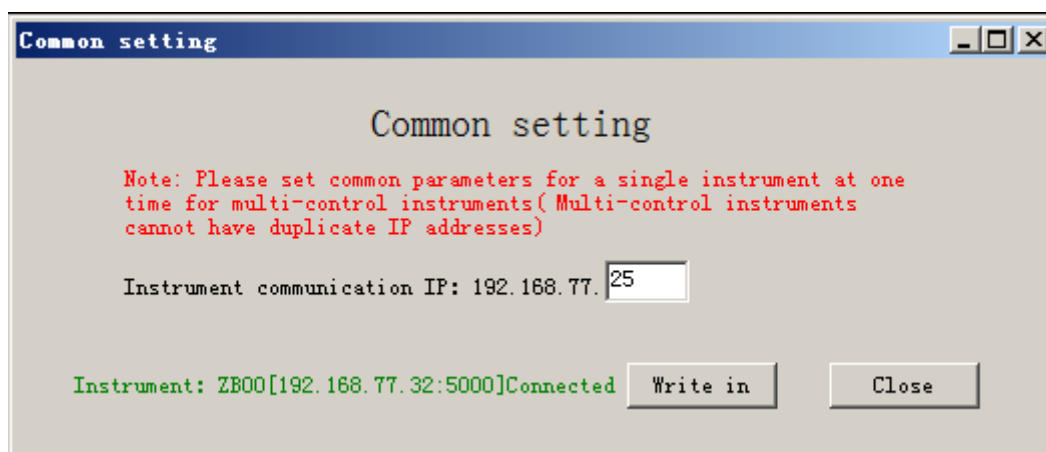

Fig 3-1
- Device IP address: After open communication settings, the lower software will send the IP address to communication settings window, and show online, as shown in Fig. 3-1.